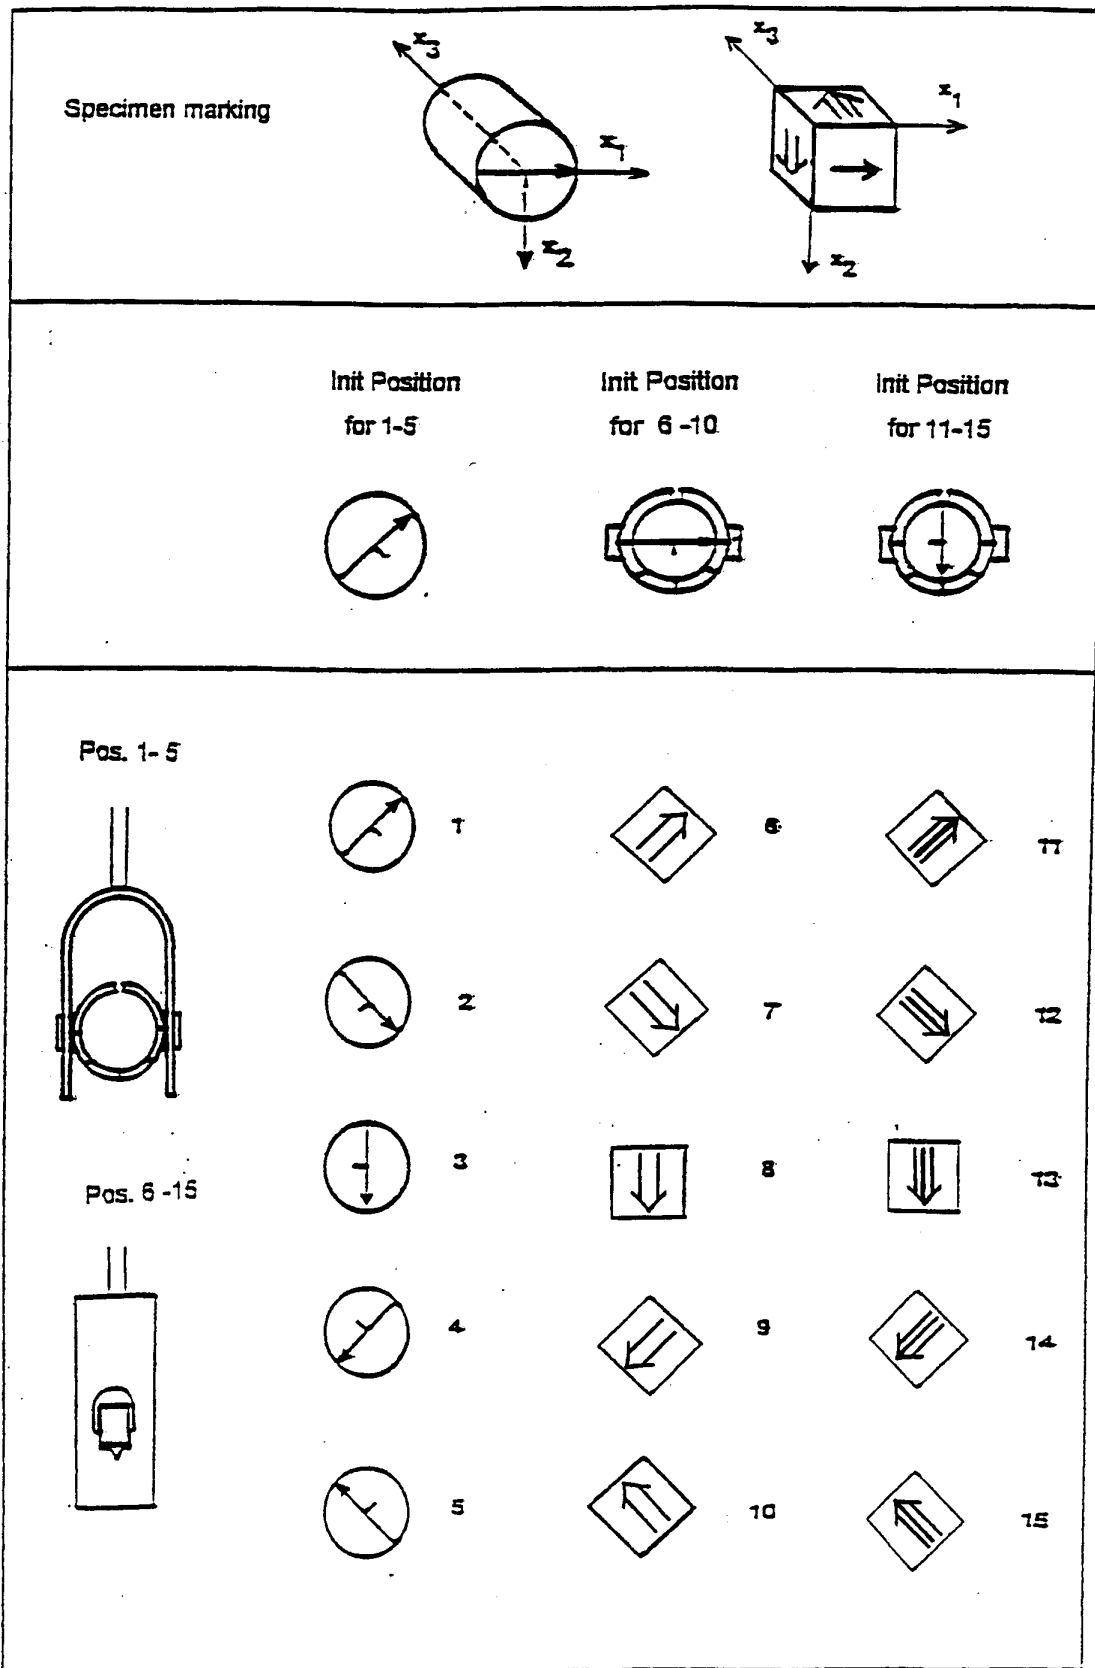

Fig. 2 Measuring positions of the specimen
This procedure serves for the measurement of 15 directional susceptibilities. The design of the 15 directions is shown in the Fig. 2. The position design is the same for the cubic and cylindrical specimens. After pressing F1, the following picture appears on the screen
- One puts the specimen into the holder in the position 1 (see Fig. 2), presses the SpaceBar key and waits the computer's beep. Then, one inserts the specimen into the measuring coil from where one pulls it out after the second beep. Then, one changes the specimen's position and continues analogously until all the 15 directional susceptibilities are measured.